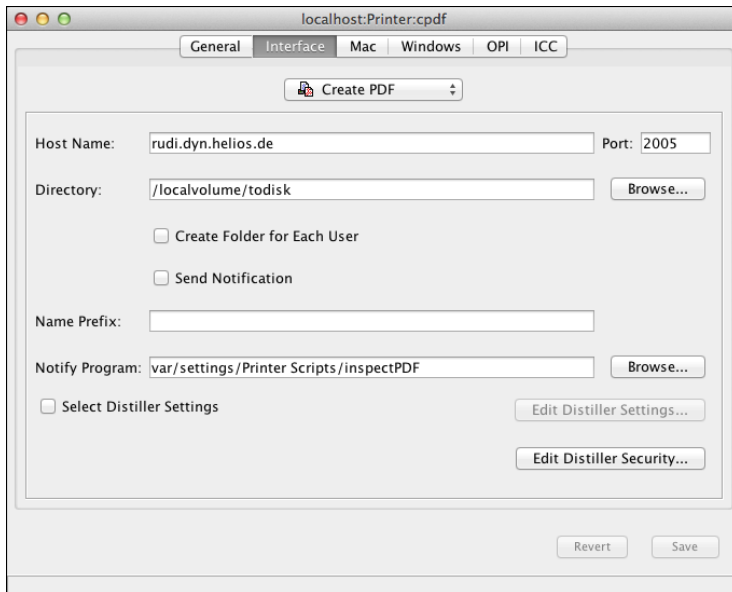

Fig. 8.2: Create PDF printer connection
- In the HELIOS Admin `Printers` tab select `File > New` and specify a new printer according to the instructions given in the Base manual. Select `Create PDF` from the `Connection` pop-up menu, so the `Interface` tab comes into the foreground (Fig. 8.2).